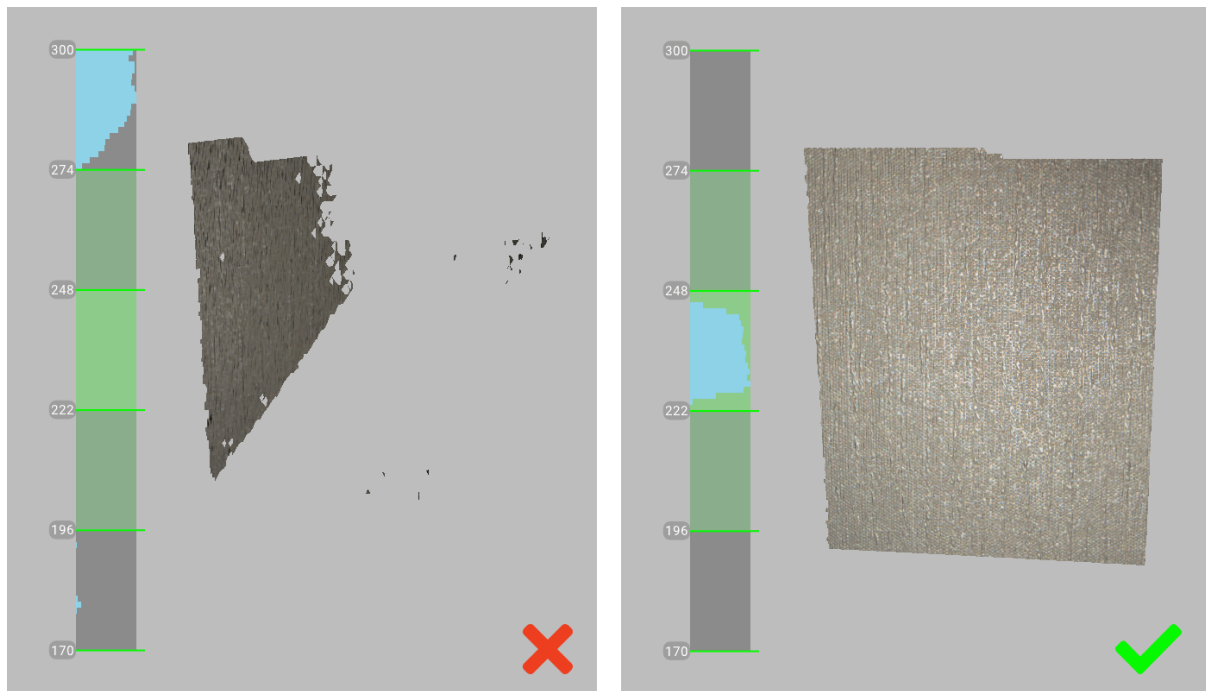

Figure 37: Scanner orientation and reconstructed surfaces.
- Maintain the scanner orientation in such a way that the field of view is sufficiently filled with surfaces (see Figure 37)